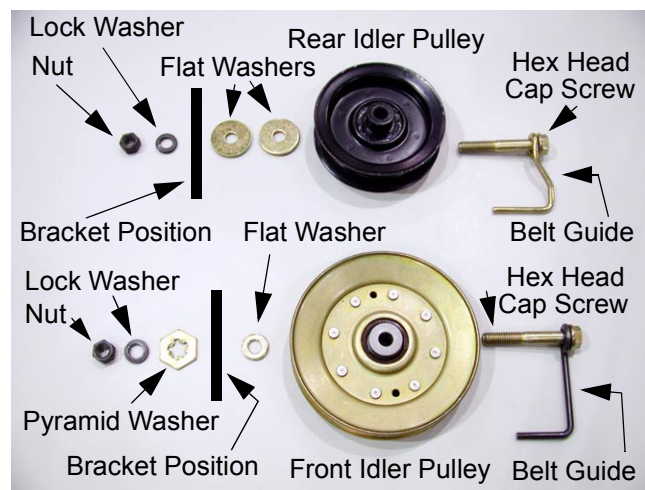

Figure 9
**NOTE:** There is a pyramid washer under the front mounting bracket that helps maintain the position of the front idler pulley. See Figure 9.